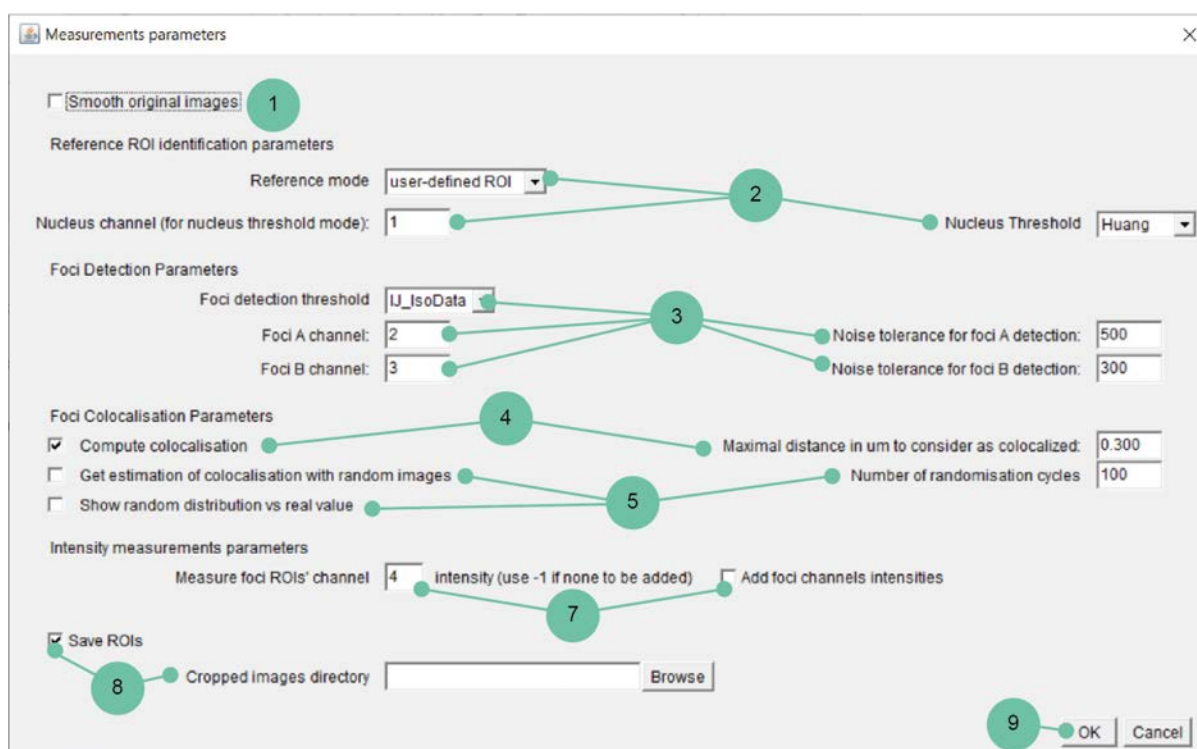

Fig. 3.1. The "Count foci in two channels and colocalize" menu. User intervention is not necessary for step 6.
**STEP2.** Choose the region of interest (ROI) to be used for measurements. You can either select a user-defined ROI (created by cropping the image). When opting for this reference mode, you can proceed directly to **STEP3** without the need to fill in the nucleus channel and threshold fields. The other option is to use a thresholded nucleus staining (fig. 3.1). Fill in the appropriate fields. These ROIs will be referred to as the "reference ROI" below.
**STEP 4.** If you choose to use the colocalisation option (by selecting the compute colocalisation checkbox as shown in fig. 3.1), a mask of the total foci is created (assuming some maxima were found in the reference ROI). This mask is then used to generate a 32-bit euclidean distance map, which can be created manually using the Process>FindMaxima command and selecting the single points output, followed by process>Binary>Options and choosing 32-bits as EDM (Euclidean Distance Map) output, and then running process>Binary>Distance Map.
**STEP 5.** You may want to consider verifying whether the observed colocalised pixels in both channels could have occurred randomly. To do this, you can select the "get colocalisation with random images" option. Please note that this option will not be available if the "compute colocalisation" checkbox is not selected (fig. 3.1).
Next, each random foci distribution is compared to the observed foci localisation (fig. 3.5) in the other channel using the corresponding euclidean distance map ROI (for example, random fociA\_0 (maxima) with colocalised area fociB). You can specify the number of random images to be generated in the "number of randomisation cycles" field (fig. 3.1). It is recommended to use a number of cycles greater than 30 to increase the likelihood of obtaining a normal distribution of randomly colocalised foci.
If the "compute colocalisation option" is selected (**STEP 4**, fig. 3.1) the macro checks for a triple overlap between i) the individual ROI, ii) the corresponding total\_foci, and iii) the colocalized area created at **STEP 4** using the total maxima of the other channel. If such an overlap exists, the particle (and its associated individual maximum, if generated following the **OPTIONAL STEP A** configuration) are marked as colocalized using the corresponding ROIgroup (as illustrated in figure 3.4). If no overlap is detected, and the particle overlaps with a maximum ROI (in this case, total\_fociA (maxima)), the particle is marked as not colocalized.